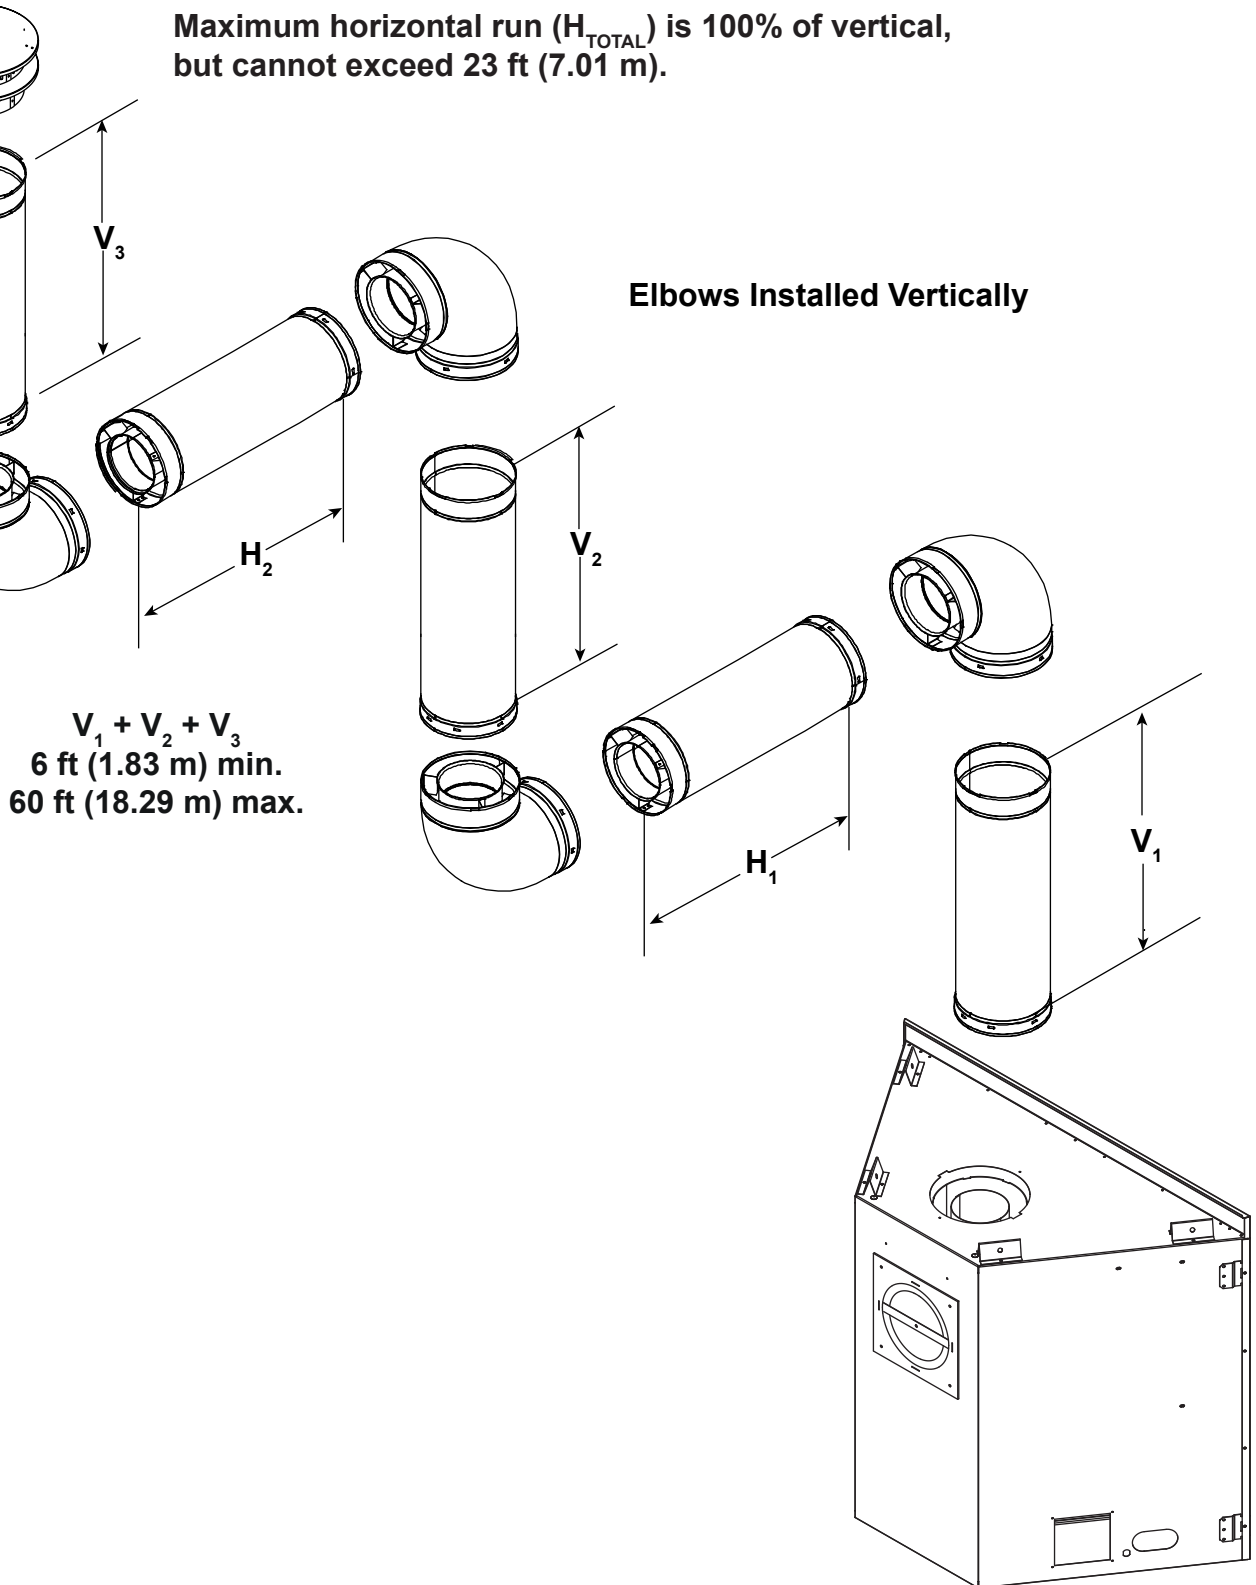

Figure 4.21
- A maximum of four 90° elbows (or eight 45° elbows) may be used in a top vented, vertically terminated vent configuration. See Figure 4.21.